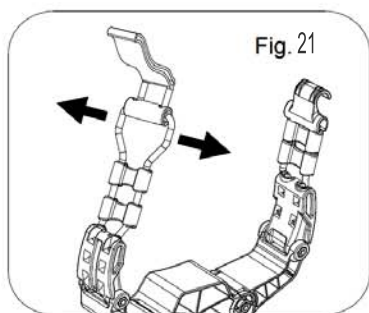
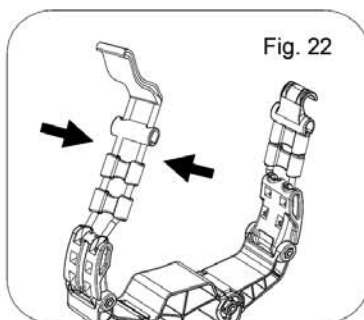

Fig. 21
Fig. 22
Refer to the Fig. 21 & Fig. 22 :
1. Pull the elastic strap out of the strap buckle as in fig.21
3. Push the elastic strap back to the strap buckle as in fig. 22